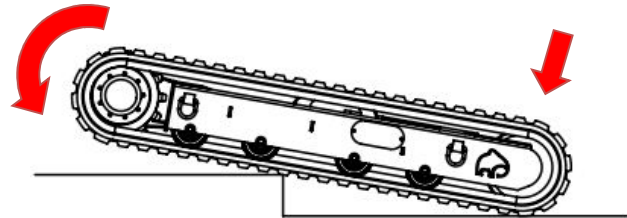

Fig. 7.5-10 - Example of running on an obstacle that may lead to the crawler coming out from its seat
- If the machine proceeds as shown in Fig. 7.5-10 (running on an obstacle), a void is created between the bearing roller, the front crawler tensioning wheel and the crawler with the risk that it escapes its seat.